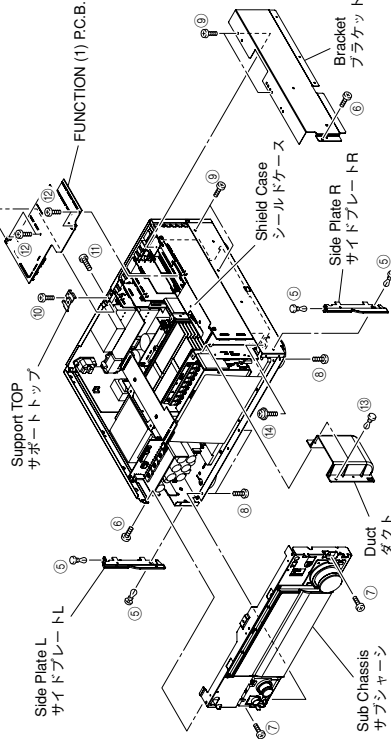

Fig. 2
- a. Remove 4 push rivets (⑤) and then remove the Side Plates L/R. (Fig. 2)
- b. Remove 2 screws (⑥), 2 screws (⑦) and 3 screws (⑧). (Fig. 2)
- d. Remove the Sub Chassis forward. (Fig. 2)
- a. ⑤のプッシュリベット4本を外し、サイドプレートL/Rを取り外します。(Fig. 2)
- b. ⑥のネジ2本、⑦のネジ2本、⑧のネジ3本を外します。(Fig. 2)
- d. サブシャーシを前方に取り外します。(Fig. 2)
4. Removal of FUNCTION (1) P.C.B.
- a. Remove 4 screws (⑨) and then remove the Bracket. (Fig. 2)
- b. Remove 1 screw (⑩) and then remove the Support Top. (Fig. 2)
- e. Remove the FUNCTION (1) P.C.B. which is connected directly to the lower P.C.B. with connectors. (Fig. 2)
- a. ⑨のネジ4本を外し、ブラケットを取り外します。(Fig. 2)
- b. ⑩のネジ1本を外し、サポートトップを外します。(Fig. 2)
- e. FUNCTION(1)P.C.B.を取り外します。(Fig. 2)
5. Removal of DSP, FUNCTION (2), INPUT (5), D-VIDEO, A-VIDEO (1), (2) P.C.B.s
- a. Remove 2 push rivets (13) and then remove the Duct. (Fig. 2)
- b. Remove 1 screw (14). (Fig. 2)